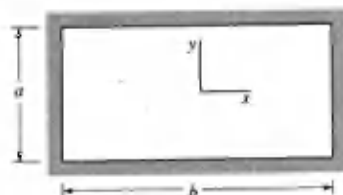

FIGURE P6.15R
6.15R (Viscous flow) Consider the steady, laminar flow of an incompressible fluid through the horizontal rectangular channel of Fig. P6.15R. Assume that the velocity components in the  $x$  and  $y$  directions are zero and the only body force is the weight. Start with the Navier-Stokes equations. (a) Determine the appropriate set of differential equations and boundary conditions for this problem. You need not solve the equations. (b) Show that the pressure distribution is hydrostatic at any particular cross section.